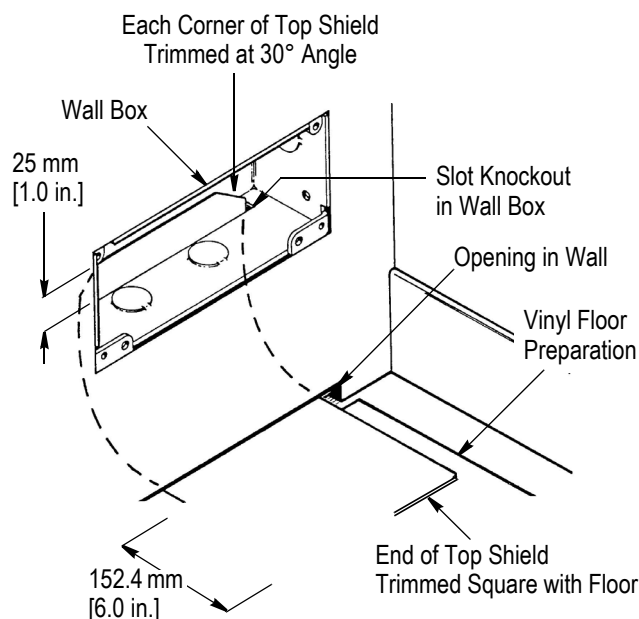

Figure 4
a. Cut a piece of top shield approximately 457 mm [18 in.] long or as needed to extend approximately 25.4 mm [1.0 in.] into the wall box and 152.4 mm [6.0 in.] outside the wall. Refer to Figure 4.
b. Trim the corners of the top shield at a 30° angle from the end that will extend into the wall box. Cut the end of the top shield that will extend from the wall so that it is square with the floor. See Figure 4.
d. If the vinyl floor preparation is used, install the top shield (used as a “bottom shield”) on top of the vinyl floor preparation. See Figure 4.